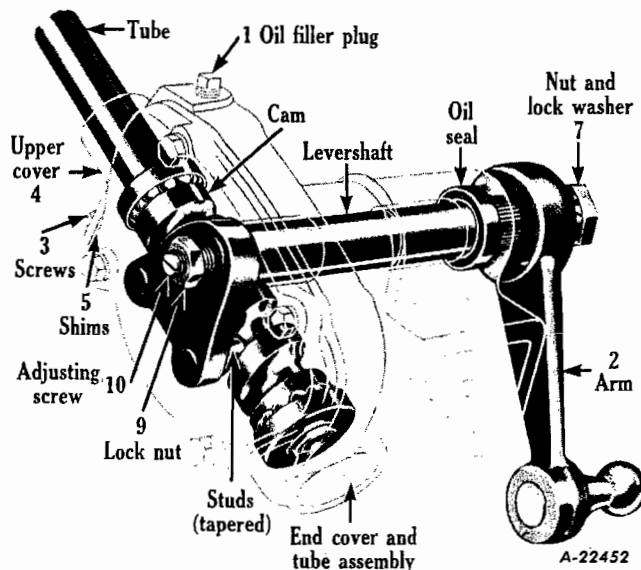

Fig. 1 - Models TA-12, T-14, TA-14.
Construction (See Figs. 1, 2, 3)
L-Line Trucks are equipped with (Ross) semi-reversible cam and twin-lever steering gears. The twin-lever construction is shown in Figs. 1 and 2.
1. Twin-lever with sliding studs -- the studs are riveted in the lever so that the studs have a sliding contact with the cam (Fig. 1).